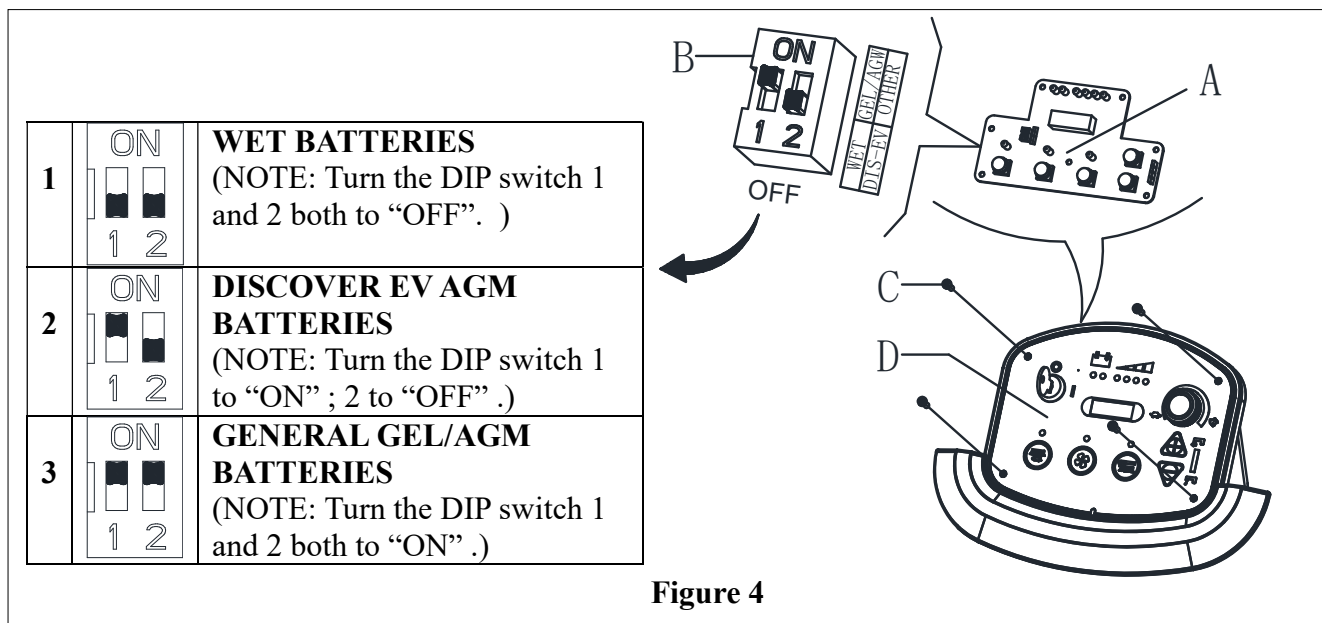

Figure 4
When install new batteries please refer to figure 4 to adjust the DIP switches. Otherwise the batteries may be damaged.
- Remove the screws on control panel (C, Figure 4), then turn over the PCB (A Figure 4) to find the DIP switch (B, Figure 4) for setting battery type (WET or Discover EV AGM or GEL/AGM), (Refer to 1 or 2 or 3).
1. Press both the buttons (A, Figure. 4) and (B) at the same time, Insert the ignition key (D) and turn on the power, after 0.5 second, enter battery setting mode. LED display during setting (C), Release the buttons.
2. The mode can be shift from 0 to 5 by pressing button (B), or shift from 5 to 0 by pressing button (A). After the battery mode setting is completed, turn off the power (D) and the new setting of battery mode can be saved automatically.